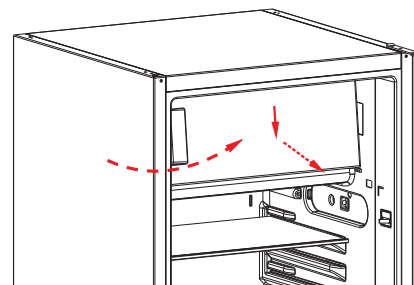

Fig. 9
- ▶ Refit the freezer compartment door on the freezer compartment by sliding the freezer compartment door upwards at a slight angle from below (Fig. 9). Ensure that the pin on top of the door is seated in the recess on the appliance and that the seal is properly flush with the edge of the freezer compartment.